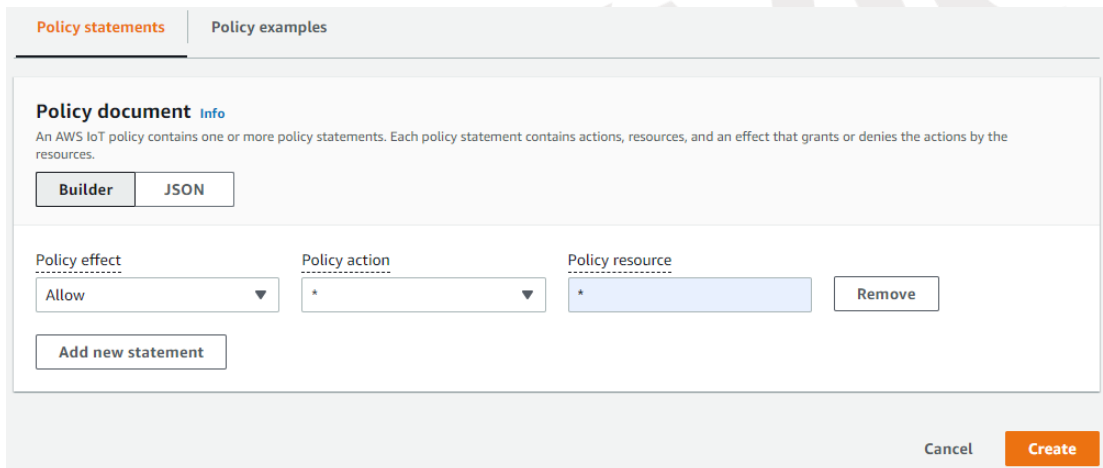

Figure 4-131 Create Policy
- Based on your specific requirements, please fill in the options for the IoT Core actions and Policy resources you need. In this example, we will demonstrate granting full permissions, and please ensure to select "Allow" as the Policy effect. Once you have made your selections, click on "Create" (as shown in Figure 4-131).